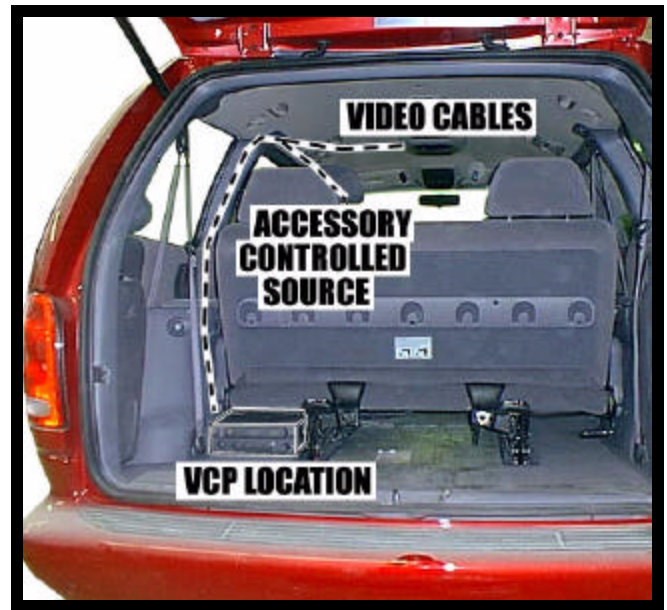

FIGURE 4
8. Install and route all video and audio cables, and any other added component requirements to their respective places in the vehicle. Refer to component installation instructions for wiring diagrams. The suggested routing of the video system cable is as follows: Above the headliner from video system rearward to the C-pillar. Down the C-pillar to the floor. Route the power lead to a fused accessory controlled source. Connect the ground lead to the vehicle chassis. Route the remaining wiring (RCA plugs, Remote Sensor extension, etc.) to the VCP location. See Figure 4. Connect per instructions included with the video system. If video system is to be used as a television, install an appropriate antenna per instructions included with the antenna.